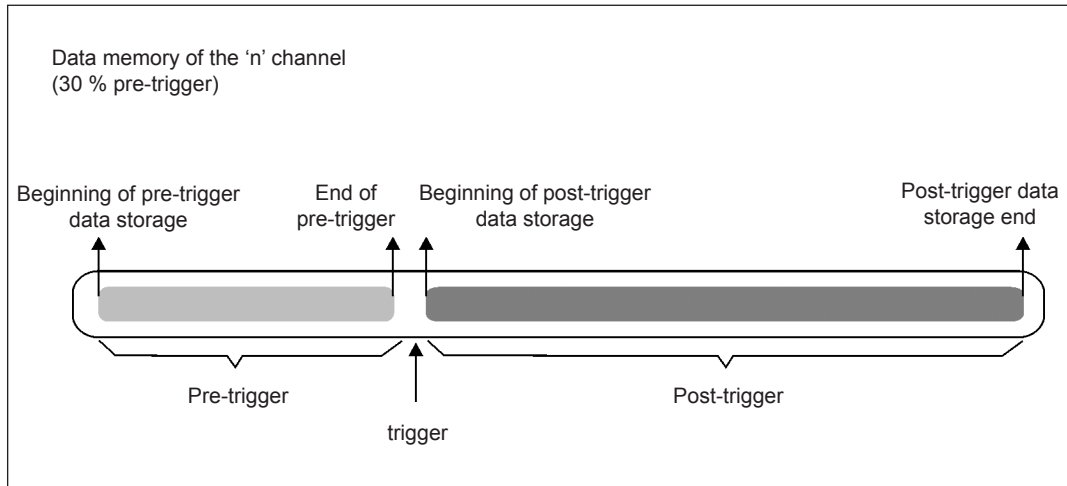

Figure 6.46 - Example of Trace function data distribution for one channel with 30 % programmed pre-trigger
- ☑ It is possible to program a pre-trigger time as a percentage of the total record (see the figure 6.46), meaning that part of the Trace function data before the trigger event will be stored. If a 50 % pre-trigger is programmed for the example 2, then 7.77 sec data before the trigger and 7.77 sec after, will be stored.